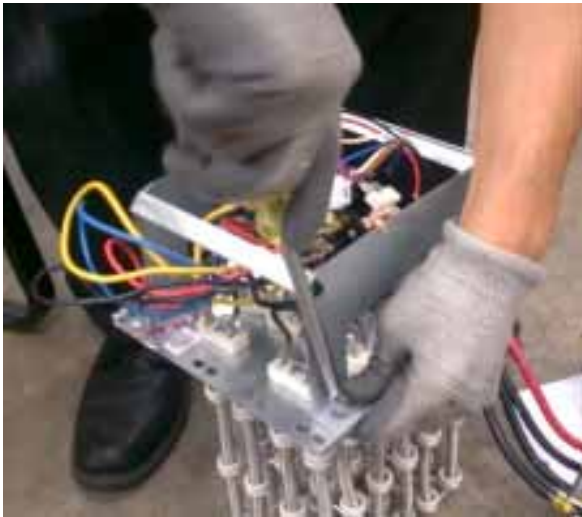

Figure 5
8. Remove four (4) screws attaching the horseshoe contactor bracket and lift off of heater plate (Figure 5).